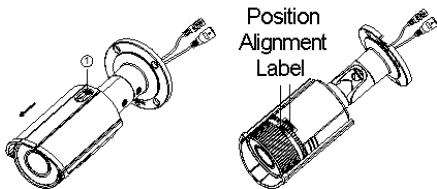

Figure 2-3 Final Assembly of Camera
6. Slide the sun shield forward as shown in Figure 2-3(left).
For a water-proof seal, please align the marks on the alignment label on the front cover with that on the camera when you secure the front cover as you rotate it clockwise. Refer to Figure 2-3(right).